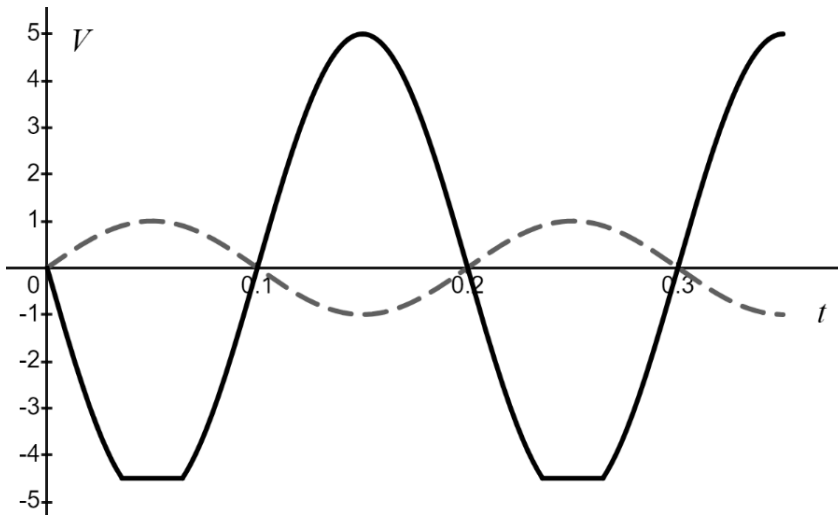

Figure 3: Input/output signals for an amplifier circuit.
Figure 3 shows the output signal of an amplifier circuit when it is connected to a given input signal.
a) Name a piece of equipment that displays Figure 3.
b) Name the piece of equipment that may have been used to provide the input signal in Figure 3. Then, describe the input signal in terms of its shape, peak-to-peak voltage, and frequency.
c) State the type of distortion shown in Figure 3, and detail a possible way in which the amplifier circuit might be adjusted so that the distortion is removed.